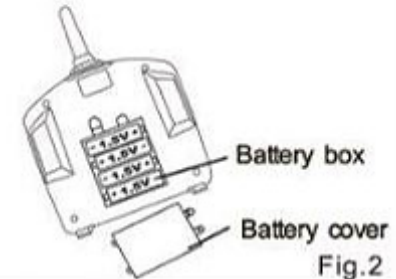

Fig.2
2. Installation of transmitter as Fig. 2, to install 4 AA batteries (additional purchase) in right way